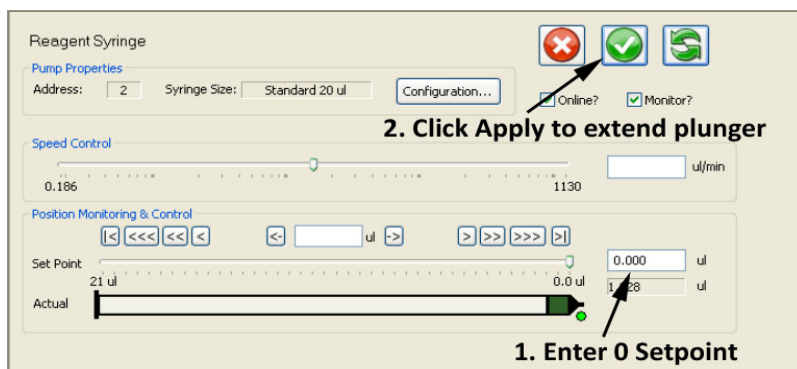

Figure 38. Set the Set Point to 0 and click Apply to extend the plunger.
3. Enter a **Set Point** of 0 to extend the syringe plunger to the 0 volume position (*Figure 38*).